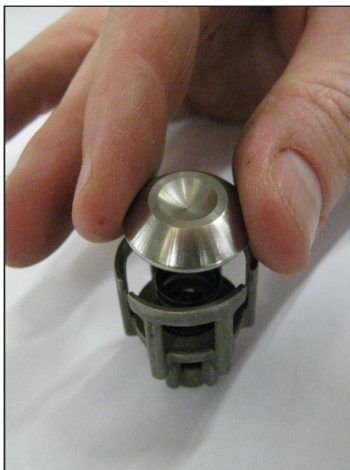
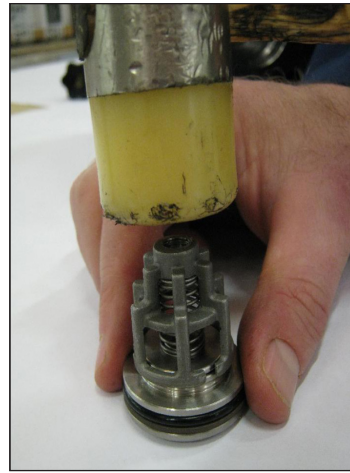

Fig. 26
Fig. 27
- 1 **When assembling the suction and outlet valve units (Fig. 26, Fig. 27). On pumps KT20 and KT22, take special care not to invert the suction springs with the previously disassembled outlet springs:**